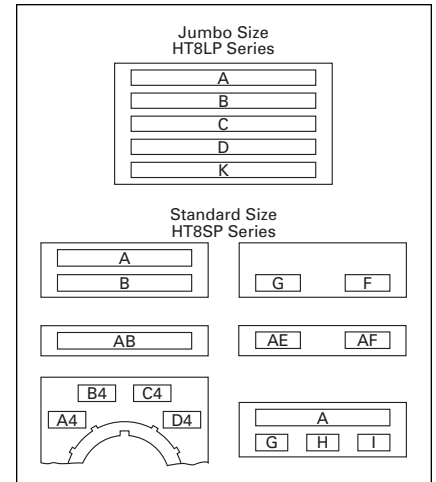

Figure 47-128. Legend Positions
- Insert the following into Order Notes: Legend, Letter Size per **Table 47-337** and Locations per **Figure 47-128**.